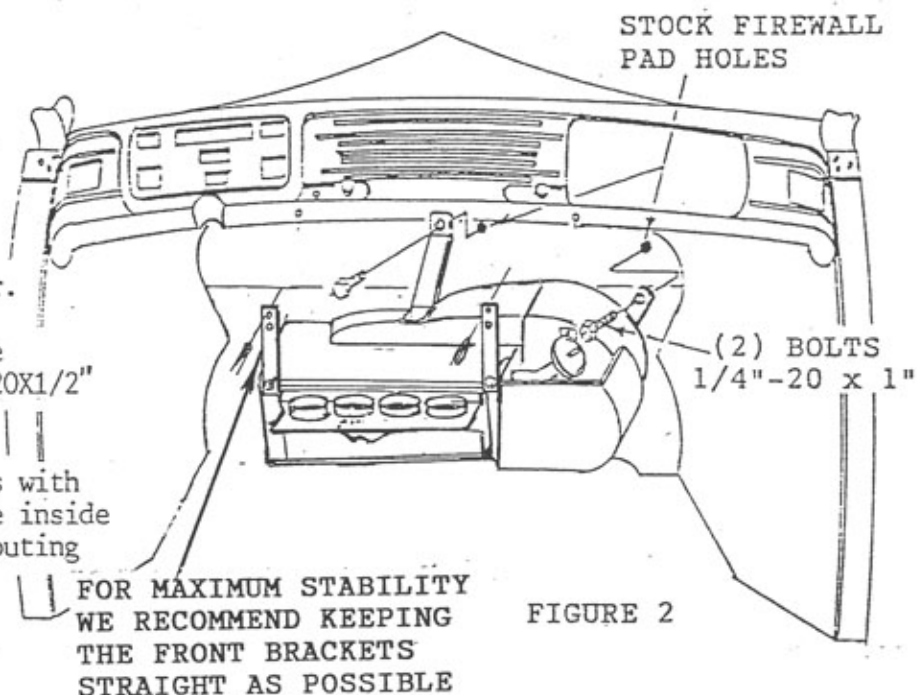

FIGURE 2
3. Brackets are furnished to mount the evaporator case using the cowl vent. (Attach to firewall as shown). Figure 2
4. The cowl vent handle will work if moved to the side. You can also convert to electric or cable operation. If you close off the cowl vent the unit will fit higher in the car. **NOTE:** To mount unit higher, simply determine the new location, mark and redrill the bracket to fit as described in Step 6 figure 2.
- B. Attach rear bracket to the evaporator using (2) 1/4-20x1/2" bolts.